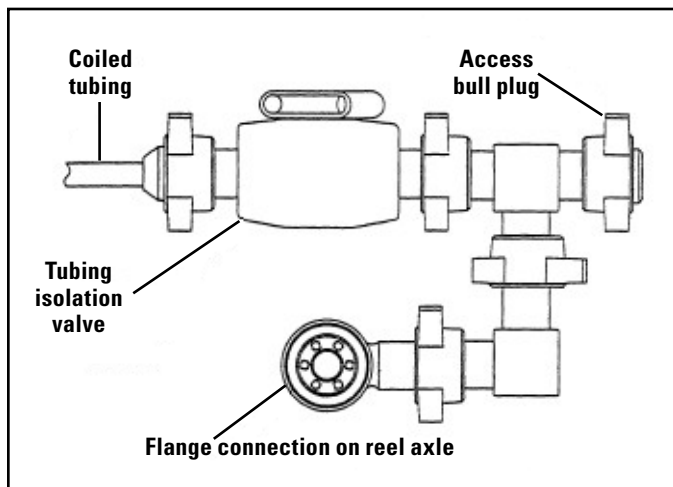

Figure 6-23. Internal Manifold
- The internal manifold (Fig. 6-23) connects the swivel to the tubing on the reel drum. It includes a 2x2 Hamer valve that can isolate the CT string if required. It should be configured with a tee to allow a ball or dart